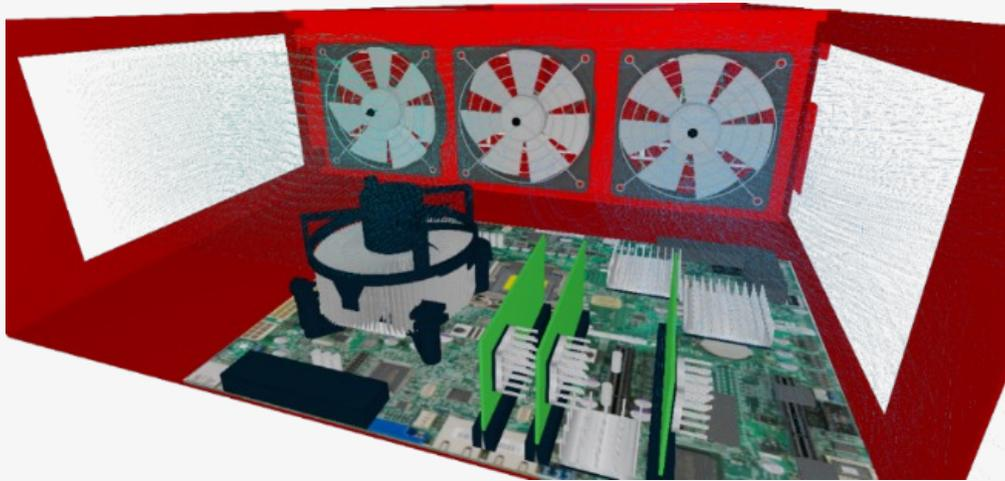

Figure 12: Forced convection in an electronics enclosure, where multiple fans drive airflow across a populated circuit board to enhance cooling efficiency
- **Natural and Forced Convection:** Convection in electronics cooling can be driven passively (natural) or actively (forced). Natural convection arises from buoyancy effects resulting from temperature differences and requires careful modeling of the enclosure geometry and vent placement. Forced convection uses fans or blowers to enhance airflow (Figure 12). The simulation should correctly represent fan curves, airflow boundaries, and turbulence regions. Modeling forced convection correctly is vital for systems with constrained airflow paths, high component densities, or directional ducting.